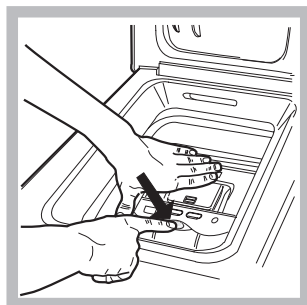

Fig. 2
B) Then open the drum using both hands as shown in Fig.2:
- press the button indicated by the arrow in fig. 2 lightly downwards, with one hand firmly resting on the doors to prevent them from suddenly opening and hurting your fingers;